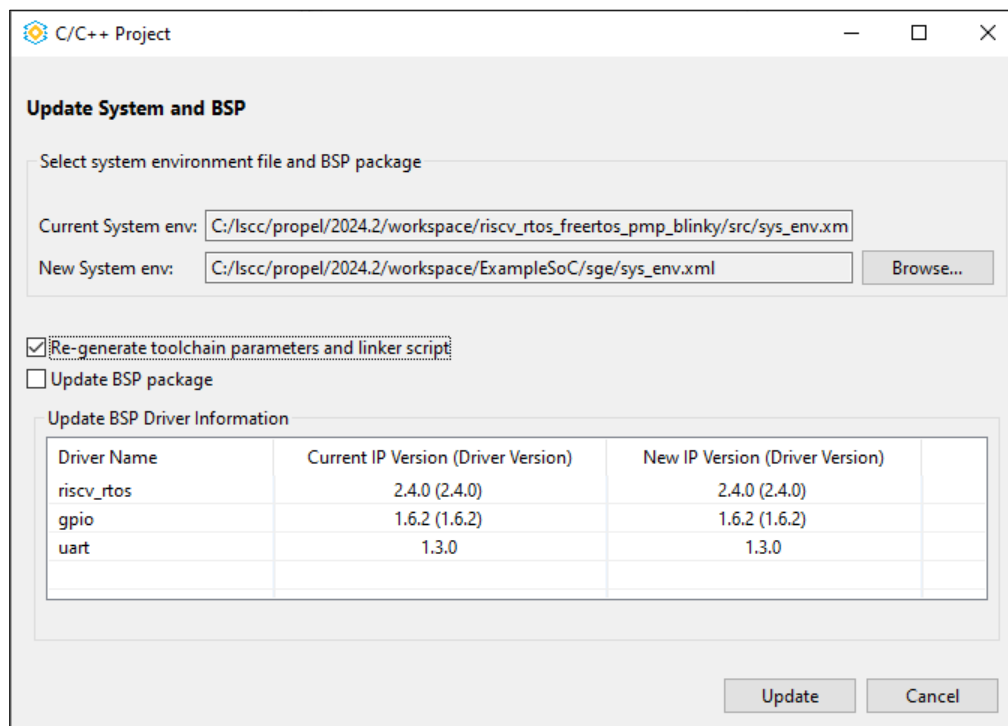

Figure A.13. Updating System and BSP
6. Switch back to the C project by selecting **Project > Update Lattice C/C++ Project....** Check the checkbox for **Re-generate toolchain parameters and linker script**, click **Update** (Figure A.13). Choose **Yes** in the Confirm box.